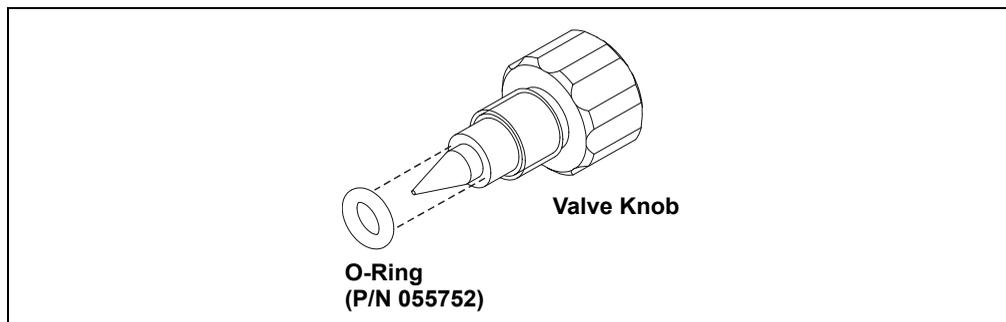

Figure 5-14. Waste Valve or Priming Valve O-Ring Replacement
4. If the O-ring is removed with the valve knob in Step 2, pull the O-ring off the end of the knob (see Figure 5-14). If the O-ring is not removed with the valve knob, insert a thin object (for example, the bent end of a paper clip) into the cavity in the pump head and carefully pull out the O-ring. **Do not scratch the cavity.**